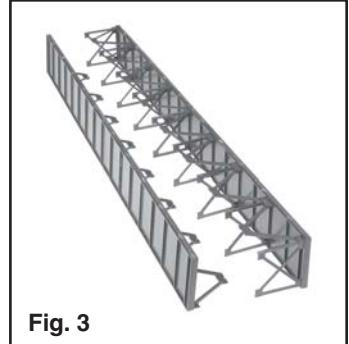

Fig. 3
**a.** Place one of the girders on edge with the lateral bracing down. Place the other girder on edge with the lateral bracing up and slide the two assemblies together. See fig. 3. Starting at one end, position the bracing as described in steps 2 and 4 and use rubber bands to hold the span assembly together as you work from one end to the other.